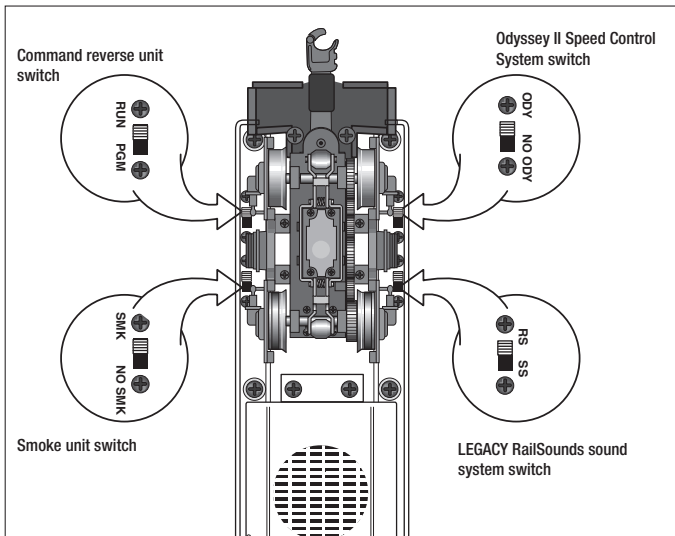

Figure 4. Switch locations
**Note!** Power your locomotive with an alternating-current (50-60Hz AC) transformer only. Powering your locomotive with a direct-current (DC) transformer, or in excess of 19 volts AC, may result in damage to sensitive electronic components.
**We recommend that you operate your LEGACY locomotive with Odyssey II Speed Control turned on.** You may choose to operate your locomotive without speed control by placing the Odyssey II Speed Control System switch to the NO ODY position. See Figure 4 on page 8 for the location of the switch.
If you prefer to operate your locomotive without smoke, locate the smoke unit switch and slide it to the NO SMK position. Refer to Figure 4 on page 8 for the location of the switch.
The functions of your locomotive's switches are outlined below. Refer to Figure 4 for the location of the switches. **The instructions below are specific to this particular locomotive; note that available features (and switches) may differ from other locomotives and locomotive sets.**
- 1. Slide the Command reverse unit switch on your locomotive to the PGM position. See Figure 4 on page 8.**